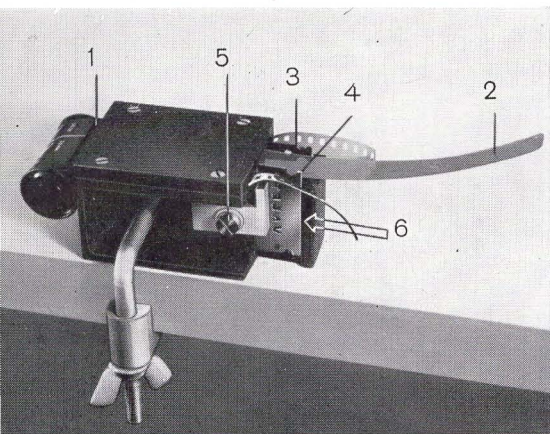
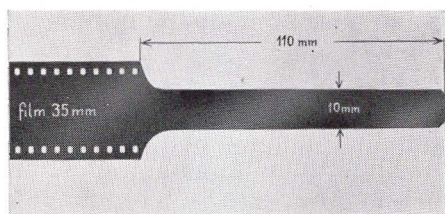

fig. 1
fig. 2
The device can be secured to bench or table by clamp (see fig. 2) or screws.
The tail of the 35 mm film must be taped as shown in fig. 1. The tail is engaged in slit (1) Fig. 2, and pushed until it protrudes on the other side of the box between the two razor blades (3) and (4). Pull tail (2) gently until blades engage in film.